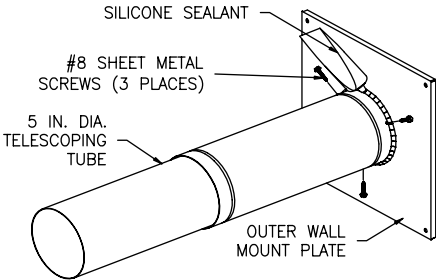

Figure 16a
Extend the five (5) inch (12.7 cm) diameter telescopic tube to its maximum length. Place the large end of the five (5) inch (12.7 cm) diameter telescopic tube over the collar on the outer wall mount plate. Drill three (3) 1/8 inch diameter holes, 120° apart, through the five (5) inch (12.7 cm) diameter telescopic tube into the collar on the outer wall mount plate. Fasten with three (3) #8 sheet metal screws (supplied). Using the supplied RTV silicone sealant, apply a sufficient amount to seal the joint. (See Figure 16a).